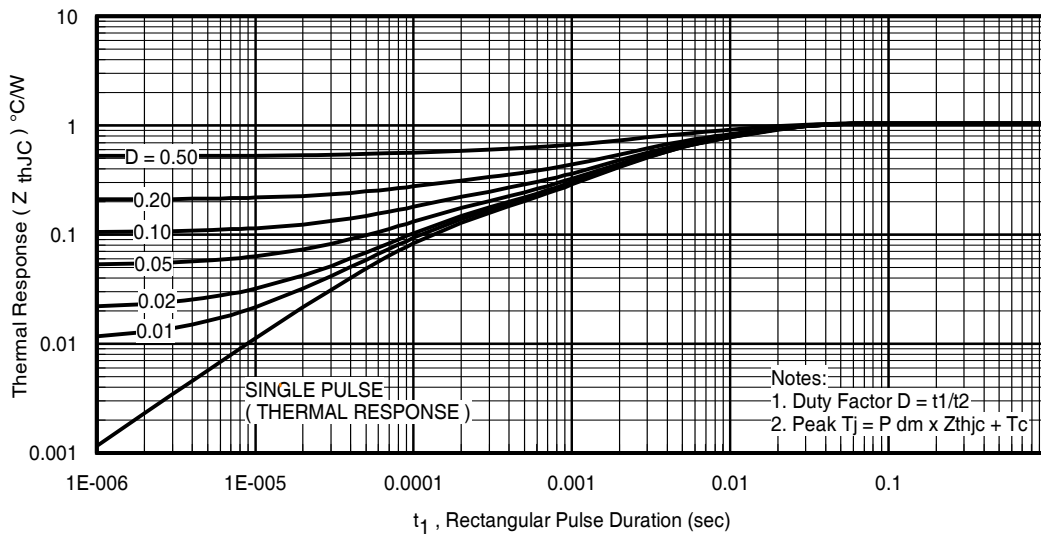

Fig 14. Maximum Effective Transient Thermal Impedance, Junction-to-Case
Notes on Repetitive Avalanche Curves, Figures 14, 15:
7. ΔT = Allowable rise in junction temperature, not to exceed T_{jmax} (assumed as 25°C in Figure 14, 15).